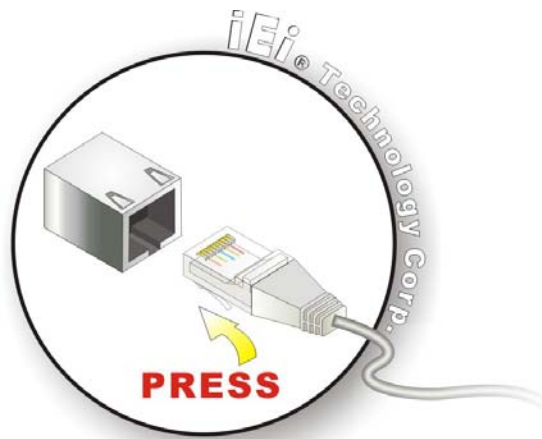

Figure 2-27: LAN Connection
Step 2: Align the connectors. Align the RJ-45 connector on the LAN cable with the RJ-45 connector on the bottom panel of the AFL2-W15A-N270. See Figure 2-27.